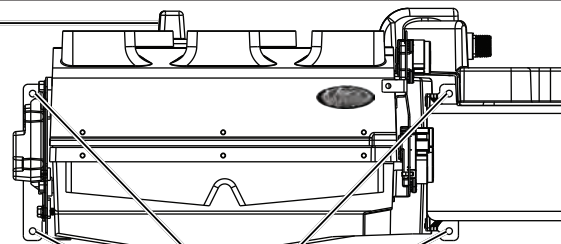

Figure 1
1. Brackets are furnished to mount the evaporator case. Attach to the firewall as shown in Figure 1, below.
2. The cowl vent handle will work if moved to the side. You can also convert to electric or cable operation. If you close off the cowl vent, the unit will fit higher in the car. **NOTE: To mount the unit higher, simply determine the new location, mark and re-drill the bracket to fit as described in Step 3 (See Figure 1, below). Be sure to allow sufficient clearance for routing the duct hoses.**